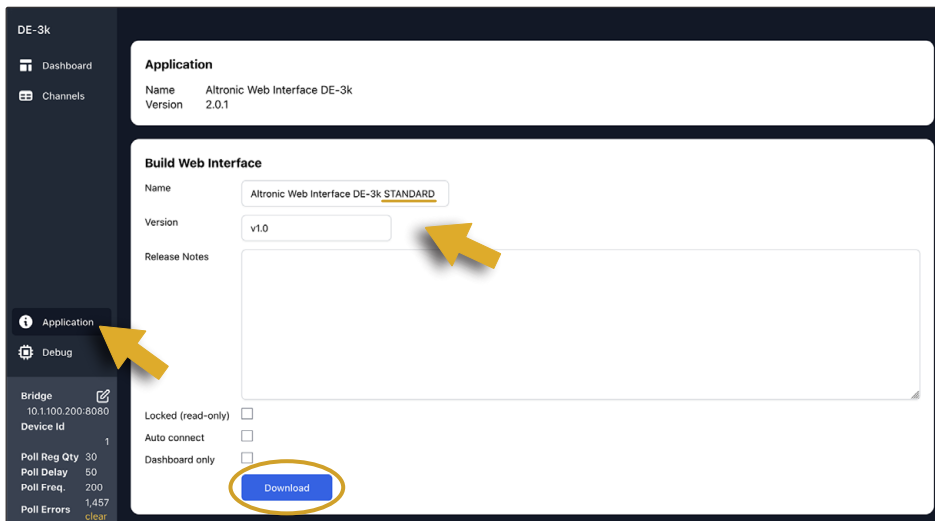

Figure 38
1. Click the **Application** button in the left sidebar. See *Figure 38*.